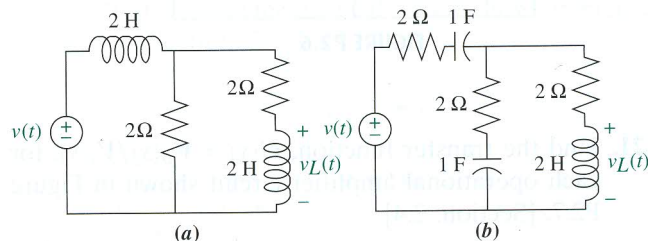

FIGURE P2.4
17. Find the transfer function,  $G(s) = V_L(s)/V(s)$ , for each network shown in Figure P2.4. [Section: 2.4]